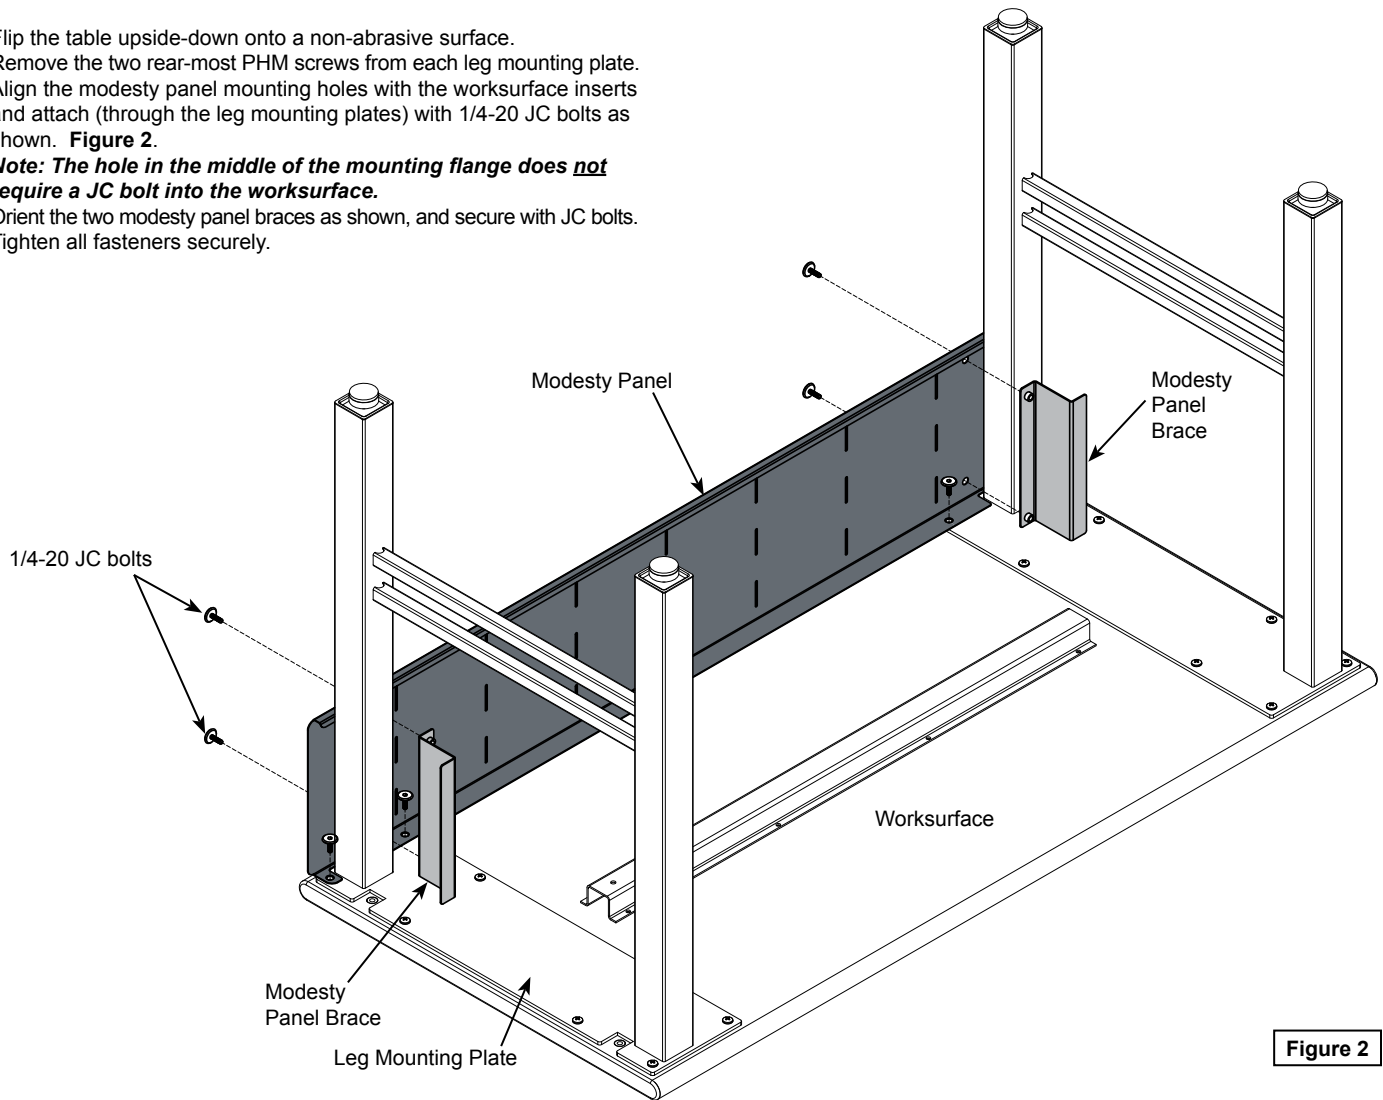

Figure 2
3. Align the modesty panel mounting holes with the worksurface inserts and attach (through the leg mounting plates) with 1/4-20 JC bolts as shown. **Figure 2.**